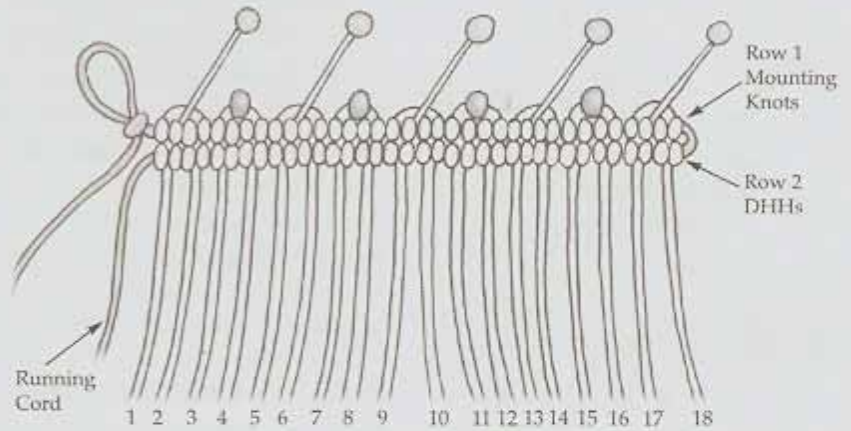

Fig. 2
2. Take the first of the 9 warp cords (Color A cords), fold it in half and attach it to the **Runner** with a **MTK** (Mounting Knot). Tighten and slide it close up against the first **SLK**. Take the second warp cord and add an 11° seed bead to it and slide the seed bead to the middle of the cord. Fold the cord in half and attach it to the **Runner** with a **MTK** making sure that the bead is positioned in the top/center of the knot. Add the other cords in the same way, alternating a plain cord and a beaded cord. When finished, the row will have 5 plain cords and 4 beaded cords (see Figure 2).
3. Make sure all the knots are as tight and neat as possible. Push all of the knots to the left, snug against the first **SLK**. Pin this first row of knots horizontally to the board with sewing pins, angling the pins slightly upward so they won't interfere with your knotting of the next row. Pin through the "loop" on the top/back of each **MTK** on only the plain (unbeaded) cords. Don't worry about pinning the beaded cords (see Figure 2). To position the knots properly for pinning, use the tip of your finger or fingernail and push the cord in toward the board, just under the row of **MTKs**. This will cause the knots to rotate so that the loop is more accessible for pinning.
4. **Row 2** - Untie the second **SLK** if you have made one. Bring the **Runner** back to the left, and working from right to left, make a horizontal row of **DHHs** (Double Half Hitches) directly beneath the first row of **MTKs** (see Figure 2).